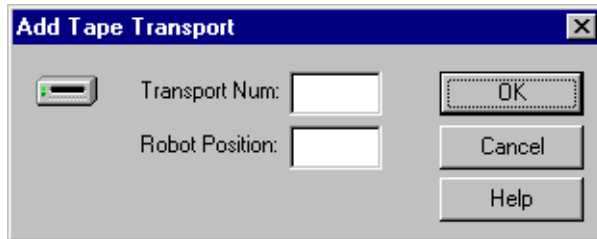

Figure 72. Add Tape Transport dialog box
3. Click the **Add** button. The Add Tape Transport dialog box appears, as shown in Figure 72.